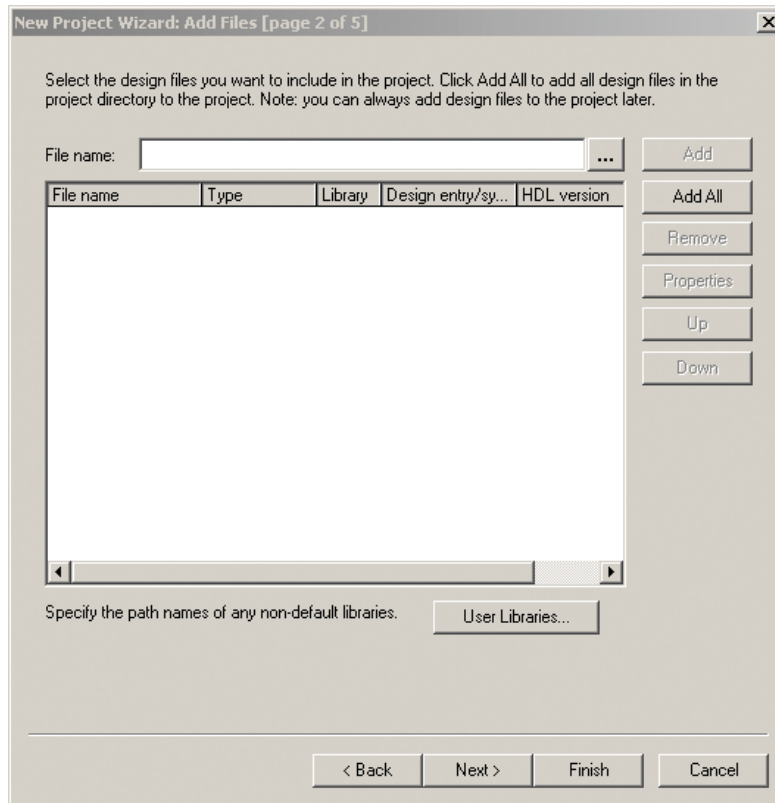

Figure 18 The New Project Wizard screen (2 of 5).
4. The second wizard screen is shown in Figure 18. We have no additional design files to add, so press **Next**.